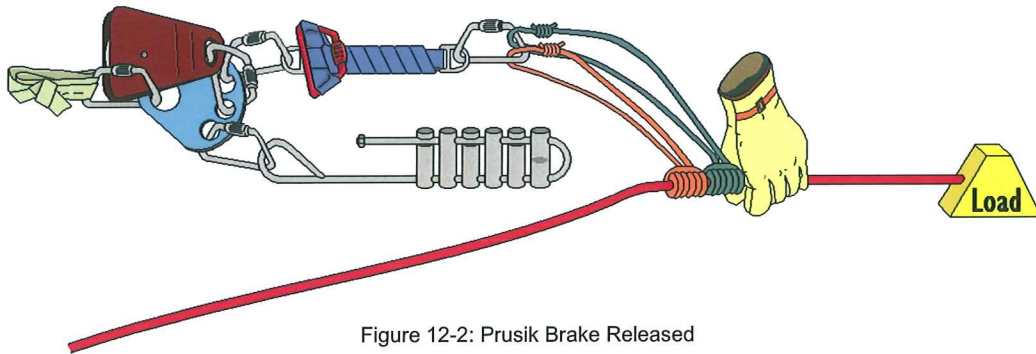

Figure 12-2: Prusik Brake Released
4. Release the prusik brake. (Figure 12-2)